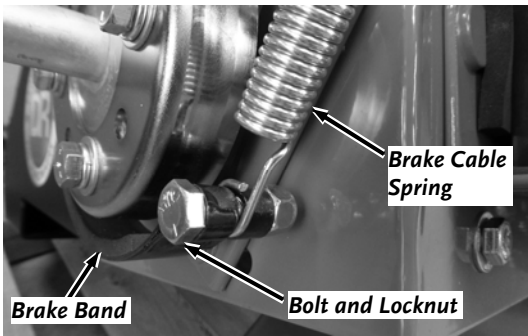

Figure 14
20. Attach the Brake Cable Spring to the bottom loop of the Brake Band using a 5/16-18 x 1-1/4" Bolt and Locknut. Tighten with two 1/2" Wrenches (**Figure 14**).